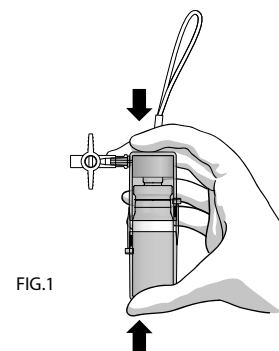

FIG.1
**Press the two half-shells of the canister (fig.1) so that they engage with each other.**